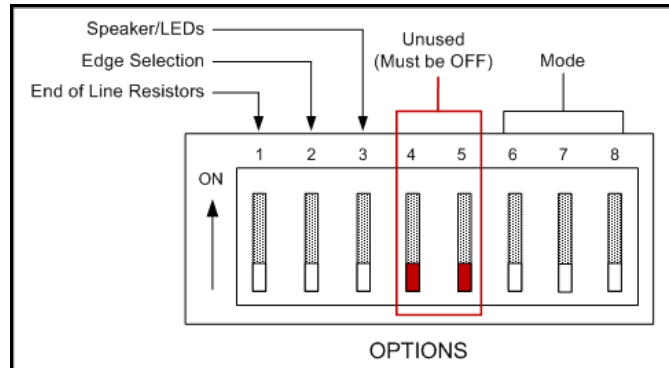

Figure 3-38: Switches on the Options DIP Switch Block
- 2 Use Figure 3-38 to identify the 3 Mode Switches: 6, 7, and 8. Set all 3 Mode Switches **OFF**. This sets the WTR to Test Mode. In Test Mode the red LED blinks and the buzzer sounds whenever a tag is detected, but the WTR does not pass the information to the network.
- To select Standby Mode, set the Options block Mode Switches **OFF, ON, OFF** as shown in Figure 3-38 on page 3-70.
- To enable EOL resistor detection, move Switch 1 of the Options DIP switch to the **ON** position. See Figure 3-38 on page 3-70.
Edge selection is controlled by switch 2 in the Options DIP Switch shown in Figure 3-38 on page 3-70. See Step 2 below.
- 3 To use EOL resistors, move switch 1 of the Options DIP switch block to the **ON** position. See Figure 3-38 on page 3-70. For a definition of EOL, see “Using End Of Line Resistors in Standby Mode” on page 3-71.
- 1 Locate switch 3 on the Options DIP switch. See Figure 3-38 on page 3-70.
- The EOL input is not returning the correct measured value. This could be treated as a tamper alarm. If it is not a tamper alarm, then correct the EOL resistor value or move DIP Switch 1 on the Options DIP switch to **OFF**. See Figure 3-38 on page 3-70 for the location of DIP Switch 1.